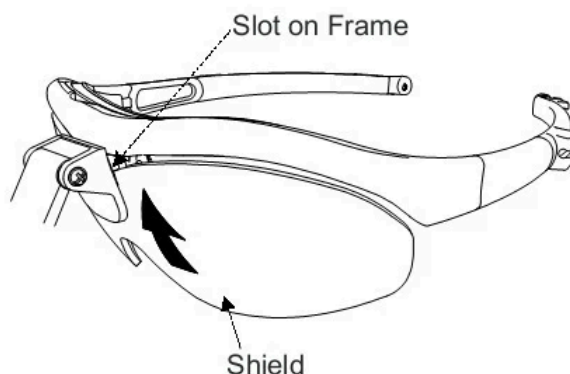

Fig. 4-6
- (1) Strongly insert the Shield into the Slot on NEO frame shown in Fig. 4-6 from the bottom side of the Frame until it stops.
- (2) Be sure that the Shield is exactly fitted in the slot of the NEO frame. If it is not precisely attached the Shield may fall during operation.